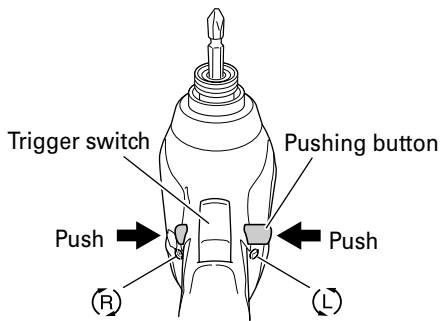

Fig. 6
The L-side of the pushing button is pushed to turn the bit counterclockwise. (See Fig. 6). (The (L) and (R) marks are engraved on the body.)